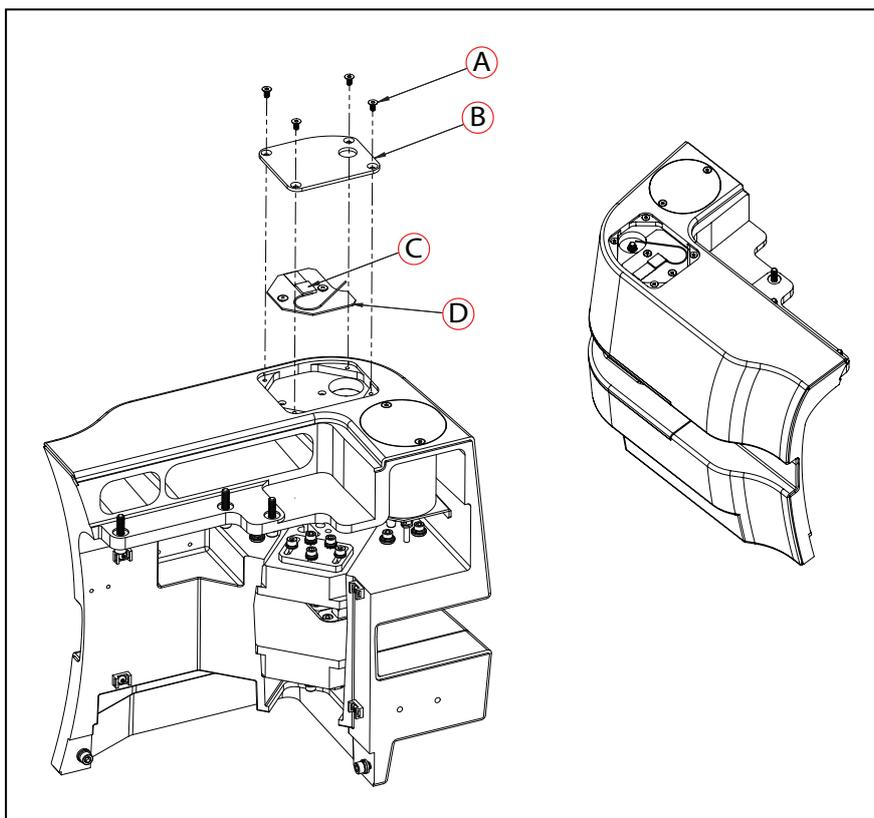

Figure 8-42. (A) M4 Screw, (B) Cover, (C) Wifi Antenna Taped to the Base Plate, and (D) Base Plate
1. Unscrew all four M4 screws ((A) in Figure 8-42. that attach the cover ((B) in Figure 8-42. to the AMR.
2. The Wifi antenna ((C) in Figure 8-42. is taped to the base plate ((D) in Figure 8-42. Remove the Wifi antenna from the base plate.